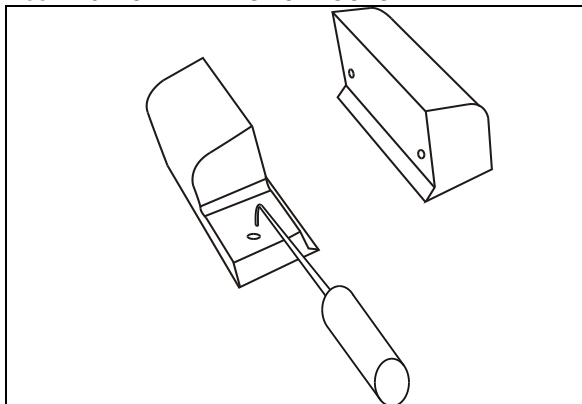

FIGURE 30: REMOVE THE UPPER ACETAL PLASTIC BLOCKS WITH A PICKING TOOL
3. Remove the 2 upper acetal plastic blocks. They have holes so they can be removed with a picking tool (Figure 30) from outside the vehicle. If the acetal plastic blocks are too hard to reach, slightly extend the slide-out, the movement of the slide-out should bring them out.